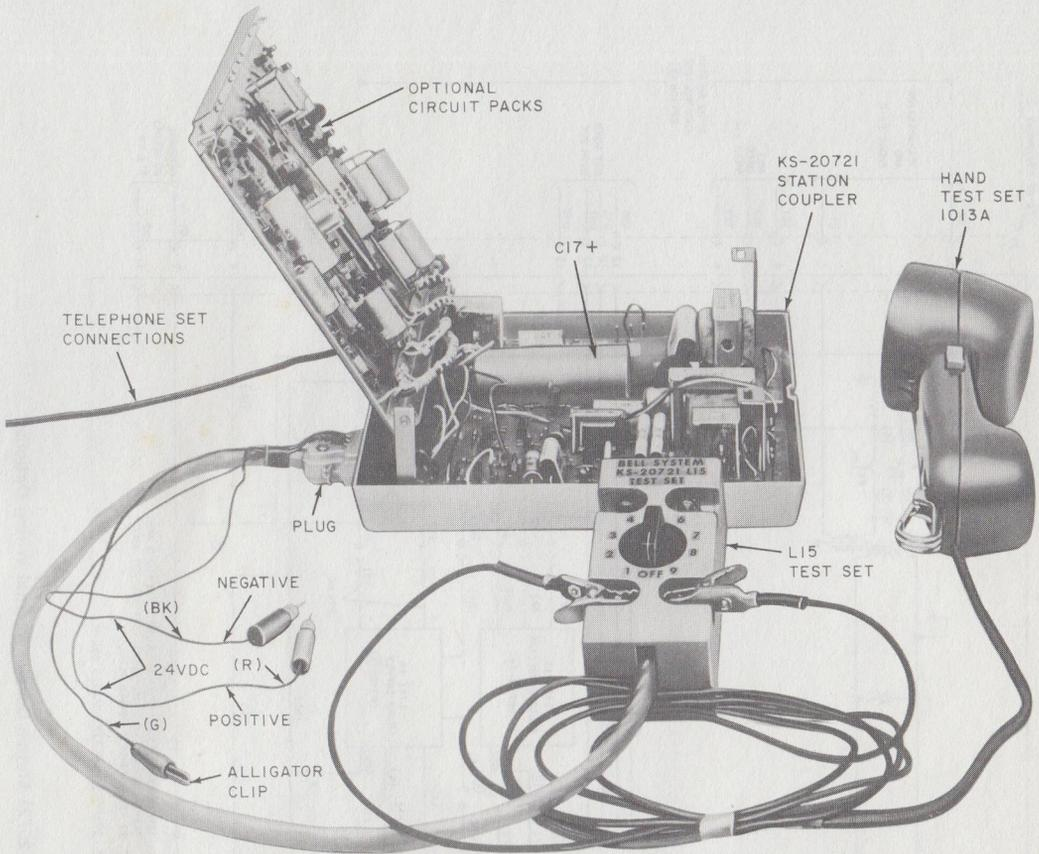

Fig. 6—KS-20721 Station Coupler with KS-20721, List 15 Test Set and 1013A Hand Test Set
**2.06** The KS-20721, List 15 test set plugs into the connector on the station coupler and is used with a 1013A hand test set (or equivalent) to check the operation of the coupler with the CPE disconnected (Fig. 6).
**4.06** The List 15 test set (Fig. 6 and 8) used with the 1013A hand test set (or equivalent) and a connecting cable terminated in a plug for connection to the station coupler permits checkout of the coupler independent of the CPE.
3	Connect a 1013A (or equivalent) hand test set to terminals provided on test set (Fig. 6).